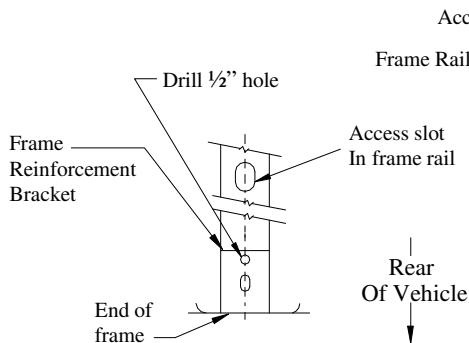

Figure 2
①	Qty. (4)	Carriage Bolt – 1/2-13 x 1.75	④	Qty. (2)	Conical Washer – 1/2"
②	Qty. (4)	Spacer – 1/4 x 1 x 3	⑤	Qty. (4)	Hex Nut – 1/2-13
③	Qty. (2)	Lock Washer – 1/2"
- Locate 3/8" hole in frame reinforcement bracket which is welded to frame rail (see Figure 2). Center punch and drill 1/2" hole in frame rail, enlarging 3/8" hole in frame reinforcement bracket to 1/2", both sides.